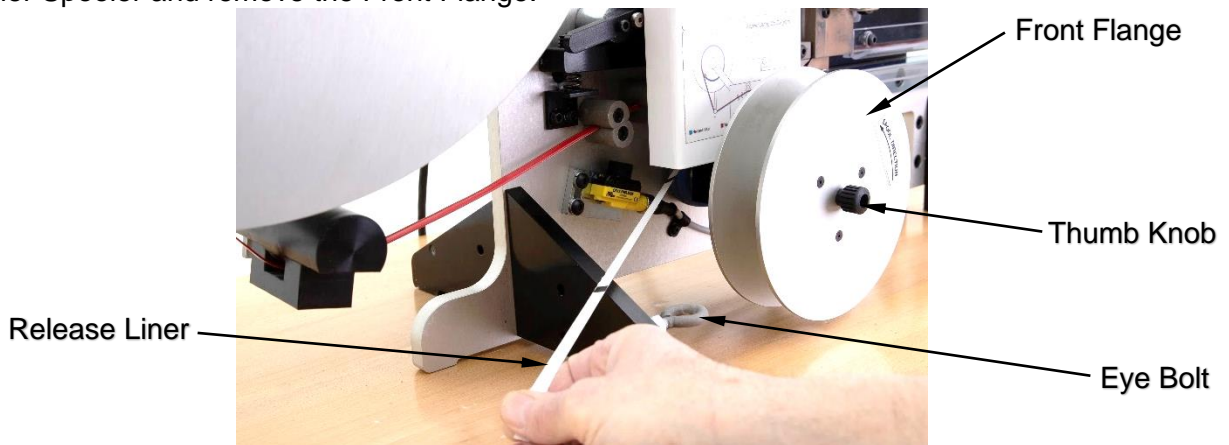

Figure 3.10
- M. Replace the Nip Guard and turn the power on. Push and hold the **JOG** button on the touchscreen so that more tie material feeds through the machine. Be sure to pull the release liner to the left as you do this. You will need about 18" of release liner. (Figure 3.10)